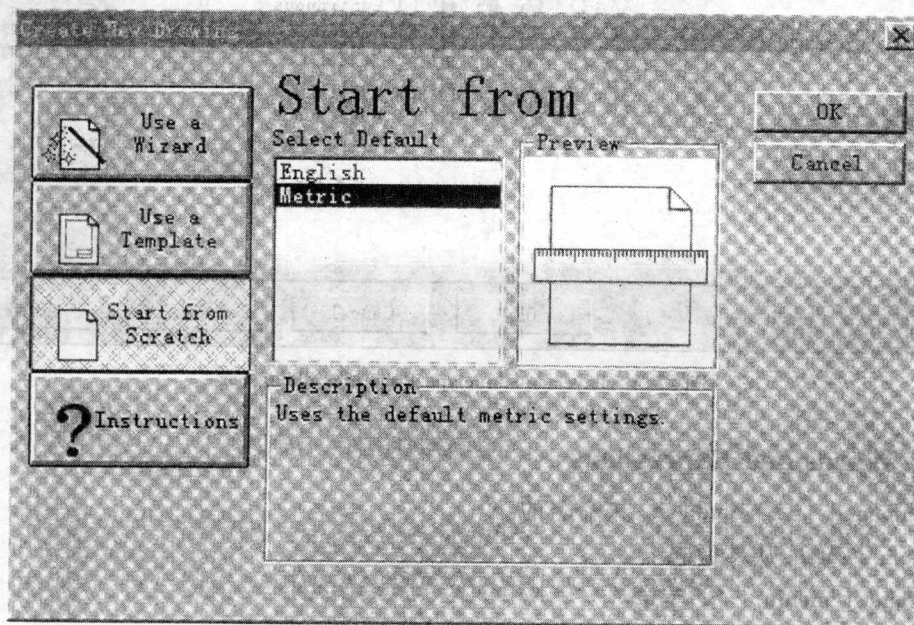

Fig. 2.1 Create New Drawing dialog box
2. In the Create New Drawing dialog box, choose Start from Scratch (Fig. 2.1).